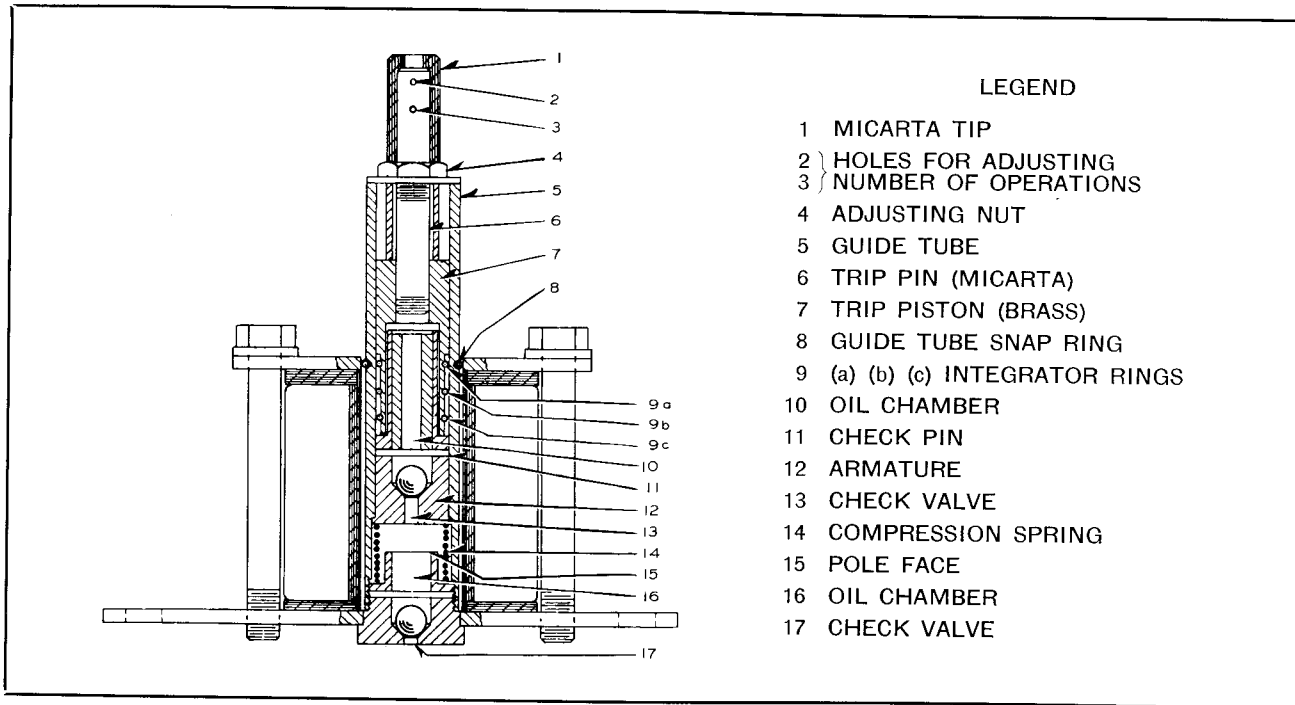
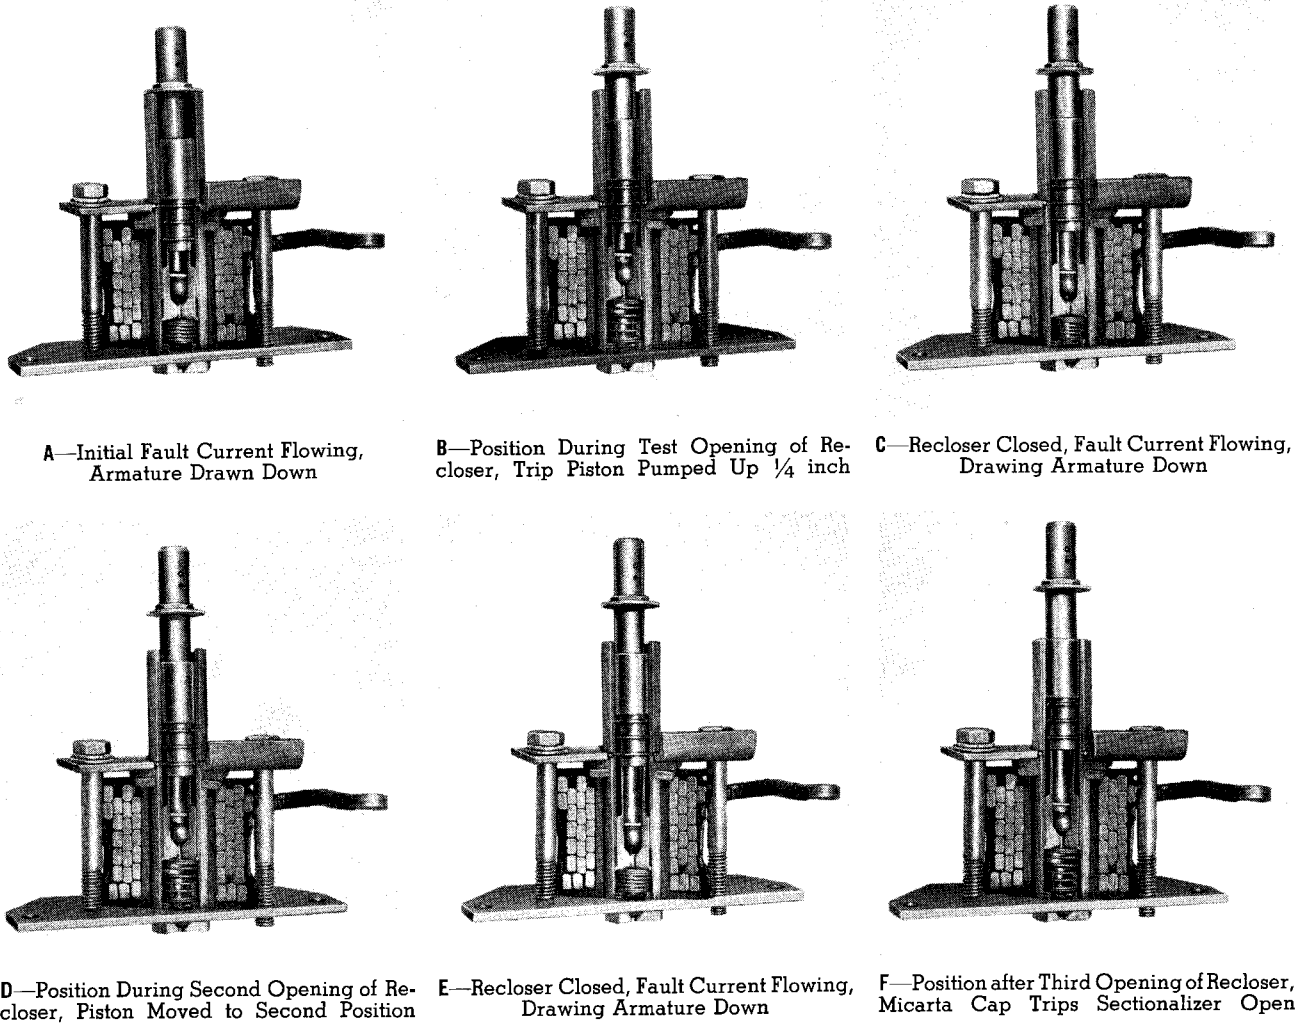

FIG. 3. Integrator Mechanism for Type GRS Sectionalizer in Normal Current Carrying Position
FIG. 5. Operating Sequence of the Integrator Mechanism
Operating Principle. The operation of the Type GRS Sectionalizer is dependent upon an integrator that counts overcurrent and subsequent openings of an associated reclosing breaker. This counting is accomplished by means of a magnetically compensated oil pump (See Fig. 3, and also Fig. 5 on page 5).
4. The snap ring (Item 8, Fig. 3) placed in the groove of the guide tube is an important part of the magnetic circuit and must not be lost.